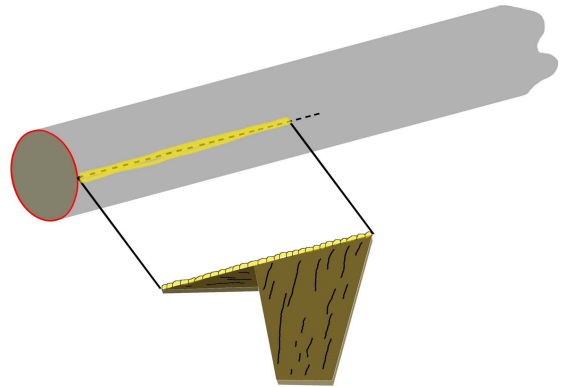

Figure 9
- **Step 13** Attach all fins to the body tube with their trailing edges touching the bottom edge of the body tube. As shown in Figure 9, attach the two (large) wing fins with their strakes to the rear (swept-rearward). Using two fin alignment tools cut from still cardstock (or cardboard), make sure the angle and location of these fins is correct. Allow each fin to dry thoroughly before proceeding to the next fin. Attach the (smaller) vertical fin to the body tube in like manner, but with the strake fin toward the front (swept-forward). Use the guides to maintain alignment while the glue dries. Attach the two lower-body sub-fins with the taper toward the front of the tube (large end rearward). Again, use the guides to ensure the alignment of all fins is correct.